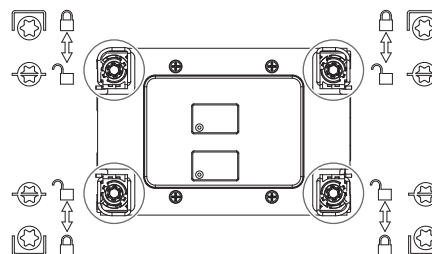

Figure 5
5. Before assembling PHM on bolster plate, follow the sticker instructions to ensure all wires are in unlocked position. Install PHM on bolster plate, and move all wires to locked position, then use Torx T30 screwdriver to tighten each nut of 8 LBF-IN (0.904 N-M) (Figure 5 & 6)